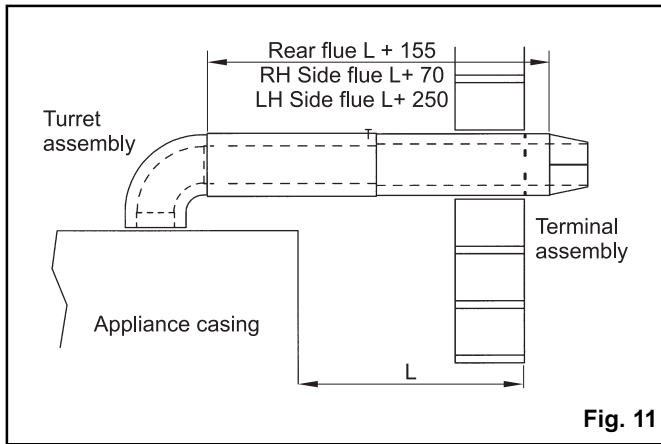
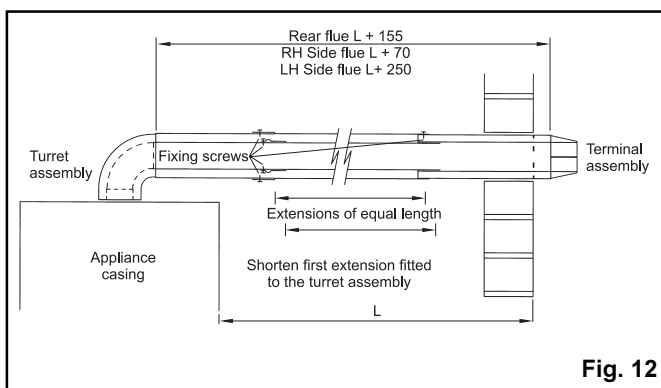

Fig. 11
Fig. 12
2) If L is within the range 127mm to 500mm then the flue can be telescopically adjusted to the correct length ($L + 70$ mm for RH side flue, $L + 250$ mm for LH side flue or $L + 155$ mm for rear flue). The ducts are then fixed by drilling a pilot hole through the hole in the air duct and screwing the self tapping screw provided into the two ducts (see fig. 11).
Each extension duct must be connected to the first section of flue or the previous extension duct by firstly fitting the inner flue ducts together and pilot drilling and fixing (see fig. 12). Then the outer air ducts can be similarly fixed using the pair of screws provided. The flue terminal section can then be telescopically adjusted and fixed as before (see fig. 11) ensuring the correct length ($L + 70$ mm for RH side flues, $L + 250$ mm for LH side flues, or $L + 155$ mm for rear flues).
4) In the event of L not falling within any of the above ranges it will be necessary to cut the FIRST extension length. The air and flue duct lengths should both be reduced to the same length: $L - 240$ mm where one extension is used; $L - 990$ mm with two extensions and $L - 1,740$ mm with three (see fig. 12). The flue can then be assembled ensuring that the cut extension is fitted to the turret duct assembly first and that the flue is adjusted to the correct length of ($L + 70$ mm for RH side flues, $L + 250$ mm for LH side flues, or $L + 155$ mm for rear flues) (see fig 11).